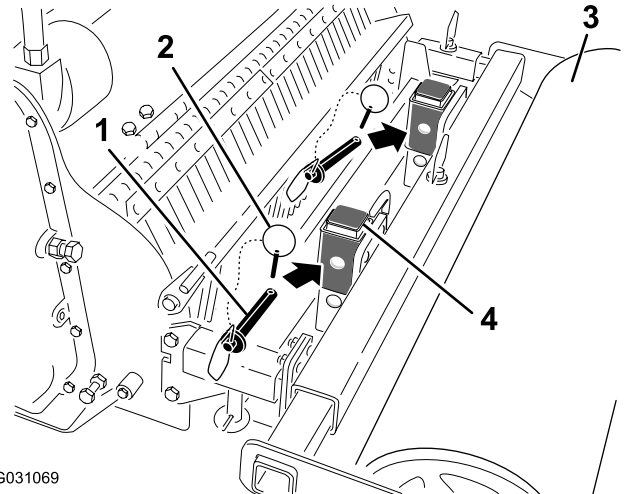

Figure 7
3. Remove the drift pins from the grader-blade mounting posts (Figure 7).